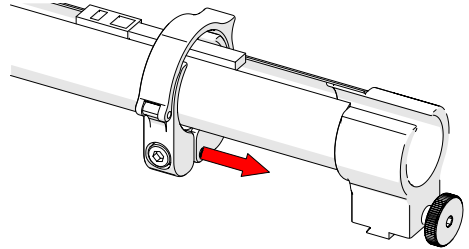

Fig. 94 - Slide clamp onto mount
3. Slide the clamp over the tube and cable management dovetail mount, pinching the tube in between (*Fig. 94*).